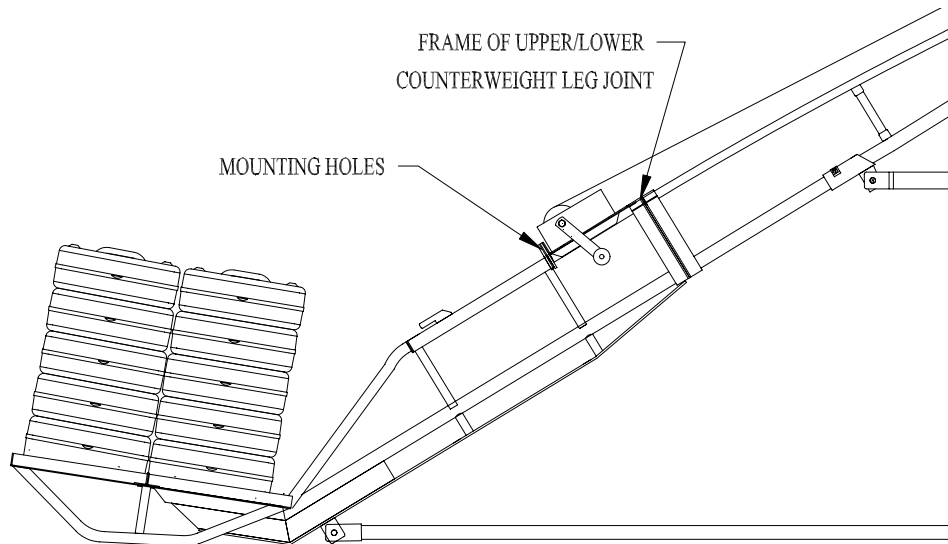

Figure 3-2.
- b. If using the HS2000 hoist, locate the winch on the lower counterweight leg by sliding the front lip of the winch mounting plate under the frame of upper/lower counterweight leg joint. Align the mounting holes and secure with the provided hardware. See Figure 3-2.